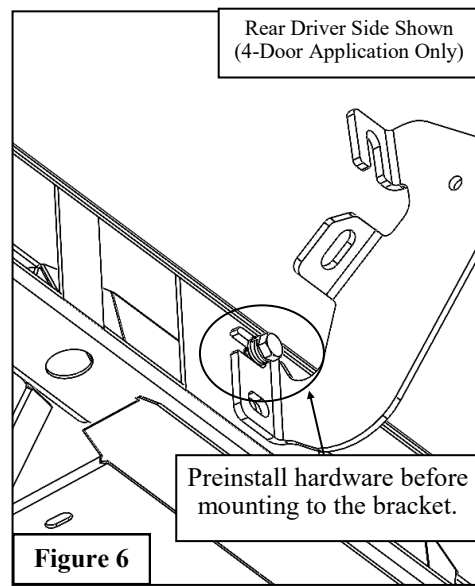

Figure 6
8. Locate the Driver Step Bar Assembly (Item 1) and loosely secure it onto the previously installed mounting brackets using the provided M8 hardware. For the 4-Door application partially insert M8 Hardware into board and slide the slotted bracket onto the bolt. See **Figure 6** for reference.
10. Mount the Step Bars (Items 1 & 2) on the mounting brackets accordingly using supplied M8 Hardware. See Figure 11 for reference. **Note: All brackets mount to the drop step in the same way, except as outlined in Figure 6.**